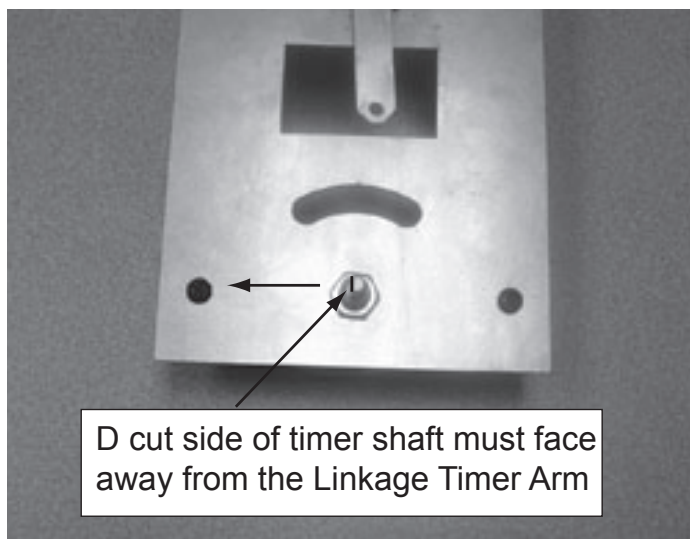

Figure 4.20 D Cut on Shaft
- Install new timer using same two screws. It is very important that the D cut side of the timer shaft is facing the opposite side of the linkage timer arm. See Figure 4.20.